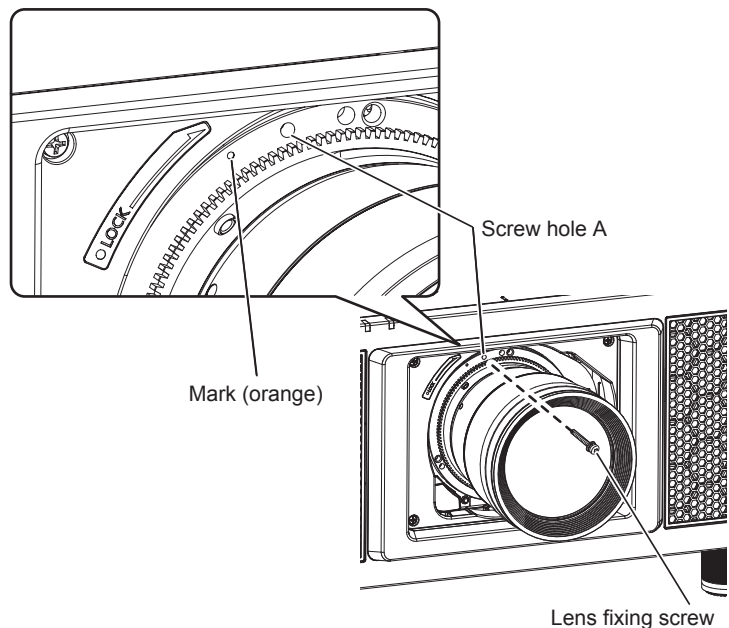

Fig. 2
- 2) Secure the projection lens with the supplied lens fixing screw. (Fig. 2)